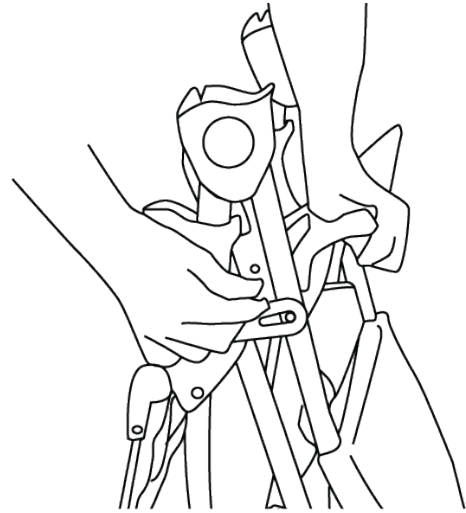

Fig. 11A
- Release the fold buttons and move handle downward until the stroller is completely folded. The stroller is in a fully locked position when the locking fold latch is locked over the “T” post, located on the right side of the stroller (Fig. 11A).